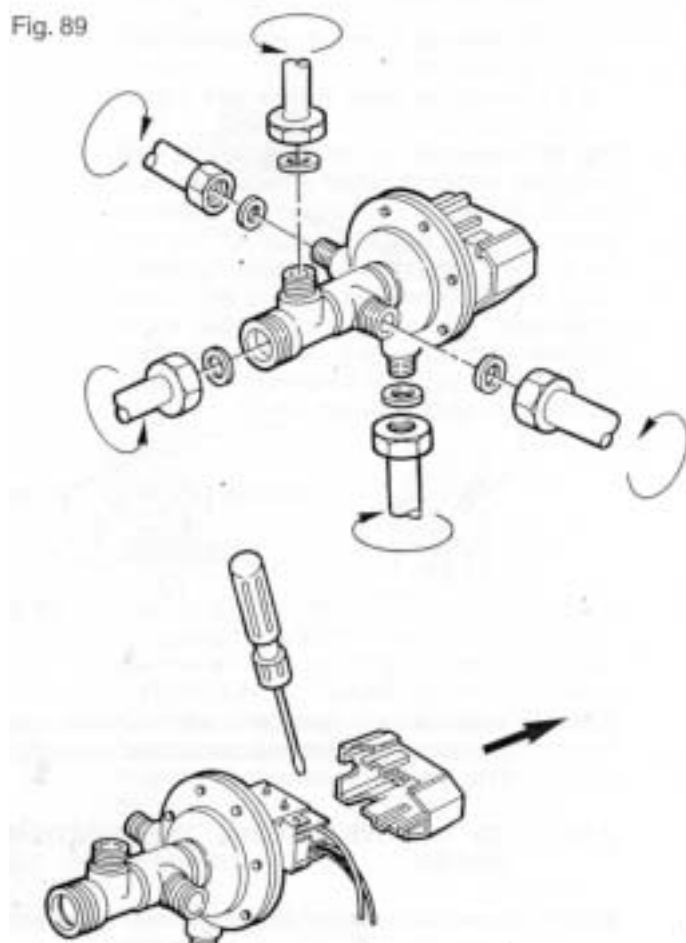

Fig. 92
7.29 TO REMOVE/REPLACE THE AIR AUTOMATIC VENT (Fig. 92)
7.29.6 Disconnect the unions 1 and 2 (Fig. 92) slightly turn and remove pipe and auto air vent.